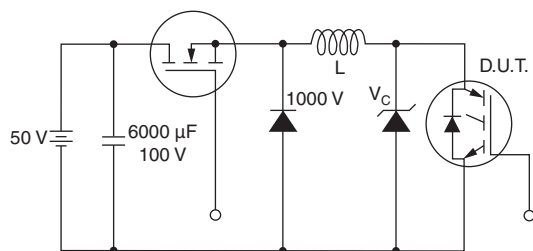

Fig. 19 - Clamped Inductive Load Test Circuit
(2) $V_{CC} = 80\text{ } \%$ (V_{CES}), $V_{GE} = 20\text{ V}$, $L = 10\text{ }\mu\text{H}$, $R_G = 23\text{ }\Omega$ (see fig. 19)